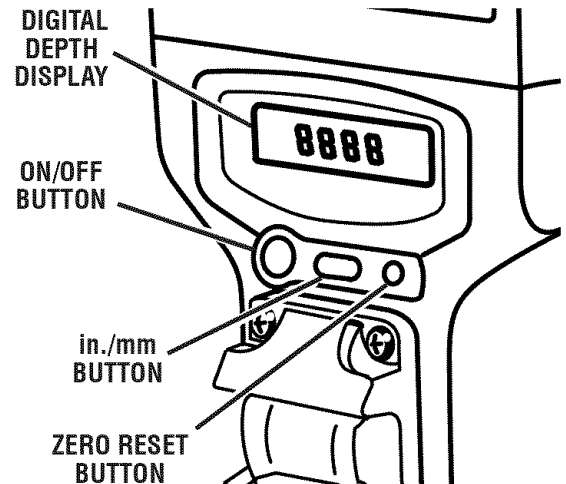

Fig. 22
*See Figure 22.*
- Place the switch in the **OFF (O)** position.